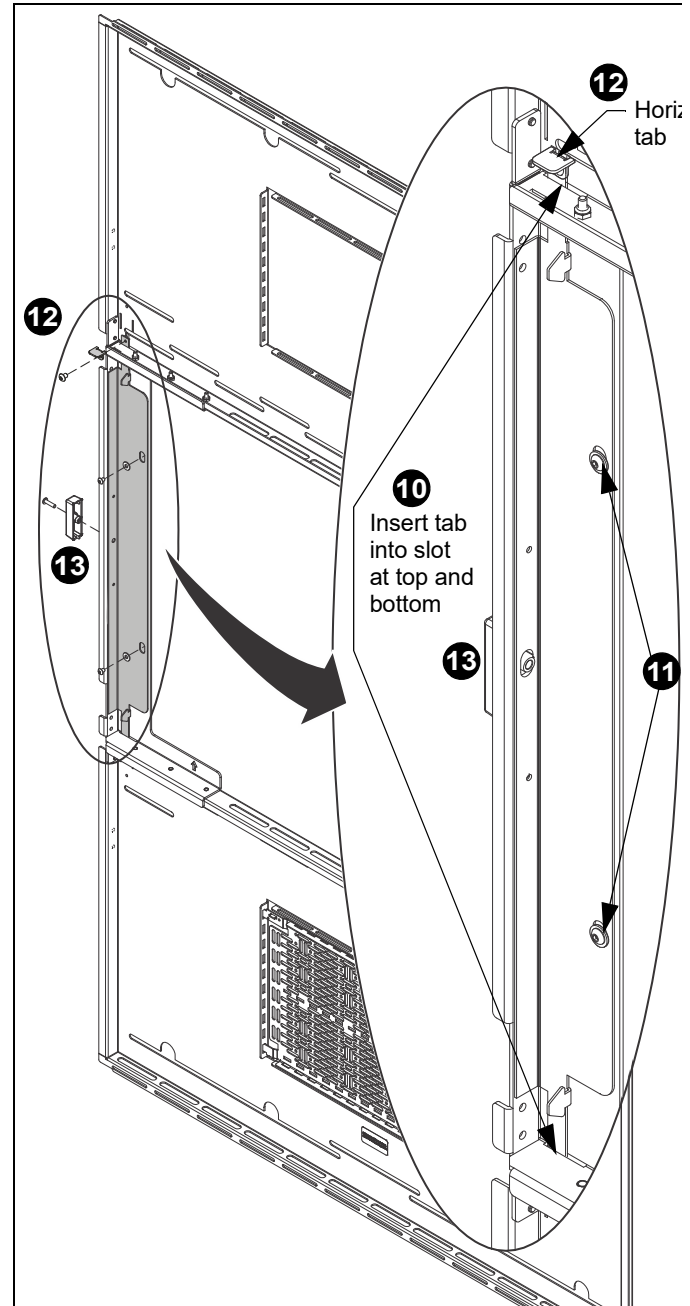

Figure 18
**NOTE:** Be sure that upper and lower tabs are slid into slots on wall bracket. (See Figure 18)
11. Fasten in place with two washers and screws removed in Step 1. (See Figure 18)
12. Re-install small horizontal tab removed from bottom of latch section in Step 1, by fastening it onto the top of the latch section. (See Figure 18)
13. Re-install outside latch using fastener removed in Step 1. (See Figure 18)
14. Re-install inside latch: (See Figure 18)